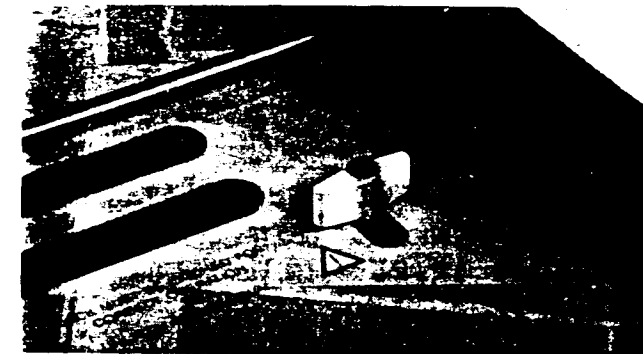

FIGURE 4.5 REMOVAL OF MAIN DECK – GROUP 1
- G. **REMOVE THE MAIN DECK (GROUP 1).** Rotate the Main Deck Retainer Figure 4.5 parallel with the slot, then lift out the Main Deck and Hood Seat Gasket.